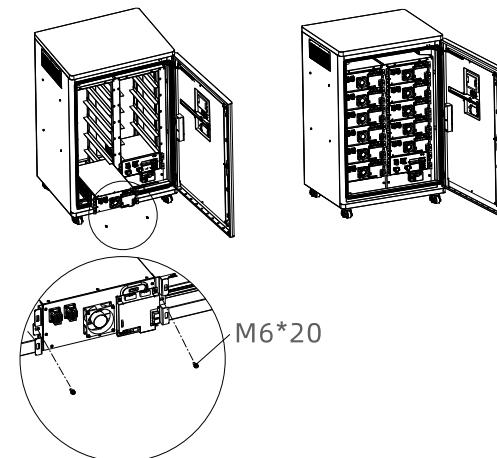

Figure-12 Installation diagram of the battery module(picture is for reference only)
4) Place the battery case in the corresponding position of the battery holder according to Figure-12, and fix the battery case to the battery holder with the matching M6 screw.